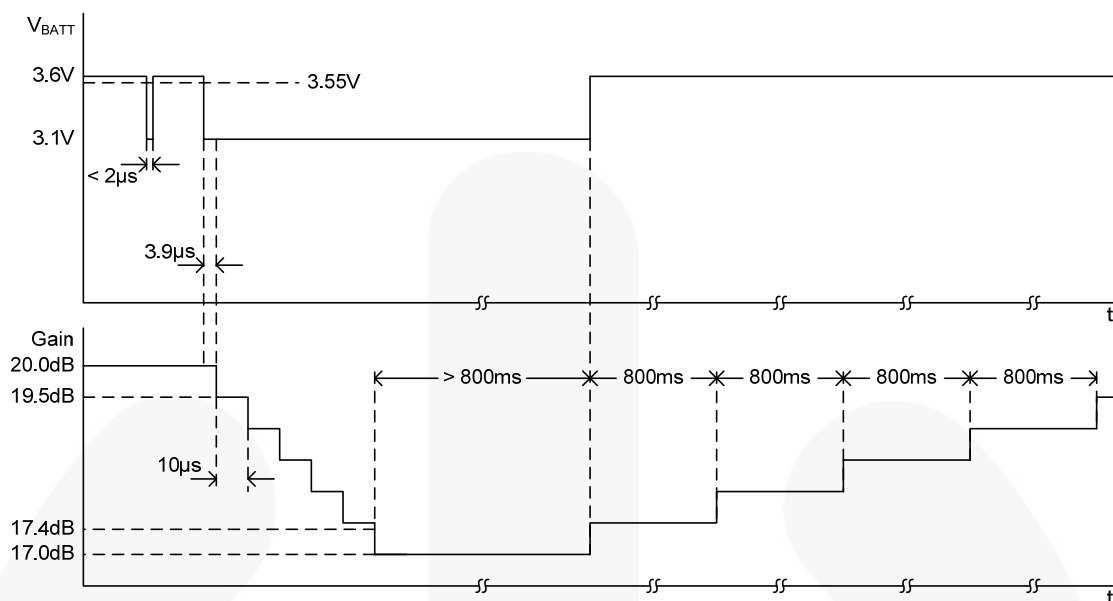
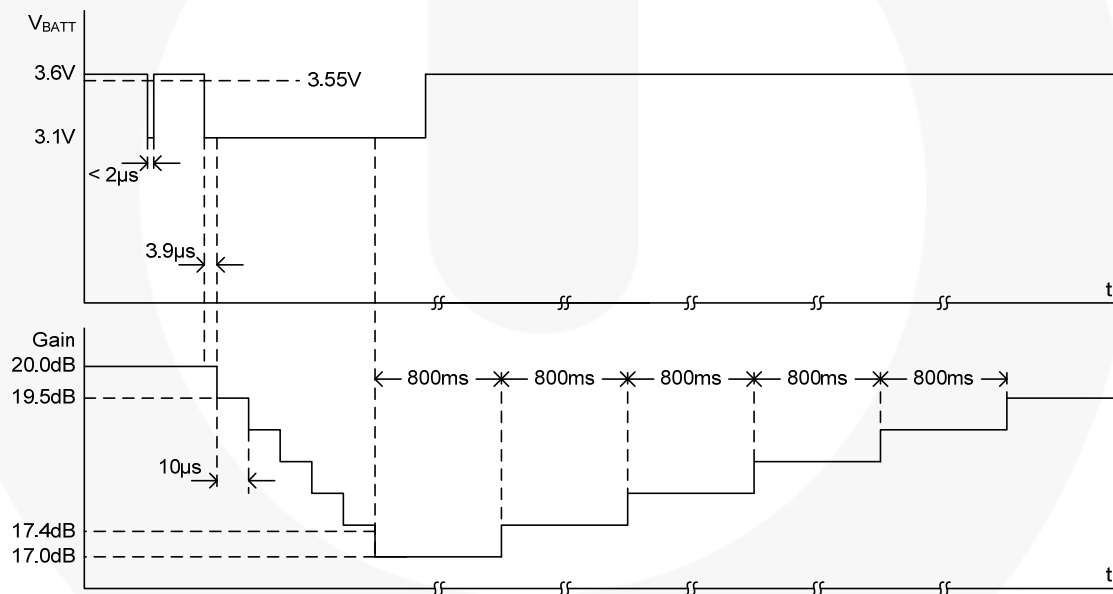

Figure 14. AGC Changes vs. Time, Example 1
Figure 15. AGC Changes vs. Time, Example 2
Figure 14 and Figure 15 show examples of AGC changes over time. In these examples, AGCT is grounded, so the AGC trip point is 3.55V.
- When V_{BATT} rises above the trip point, gain increases by 0.5dB. If more than 800ms has passed since the last gain change, gain rises immediately, as shown in Figure 14. Otherwise, gain does not rise until after 800ms has passed, as shown in Figure 15.